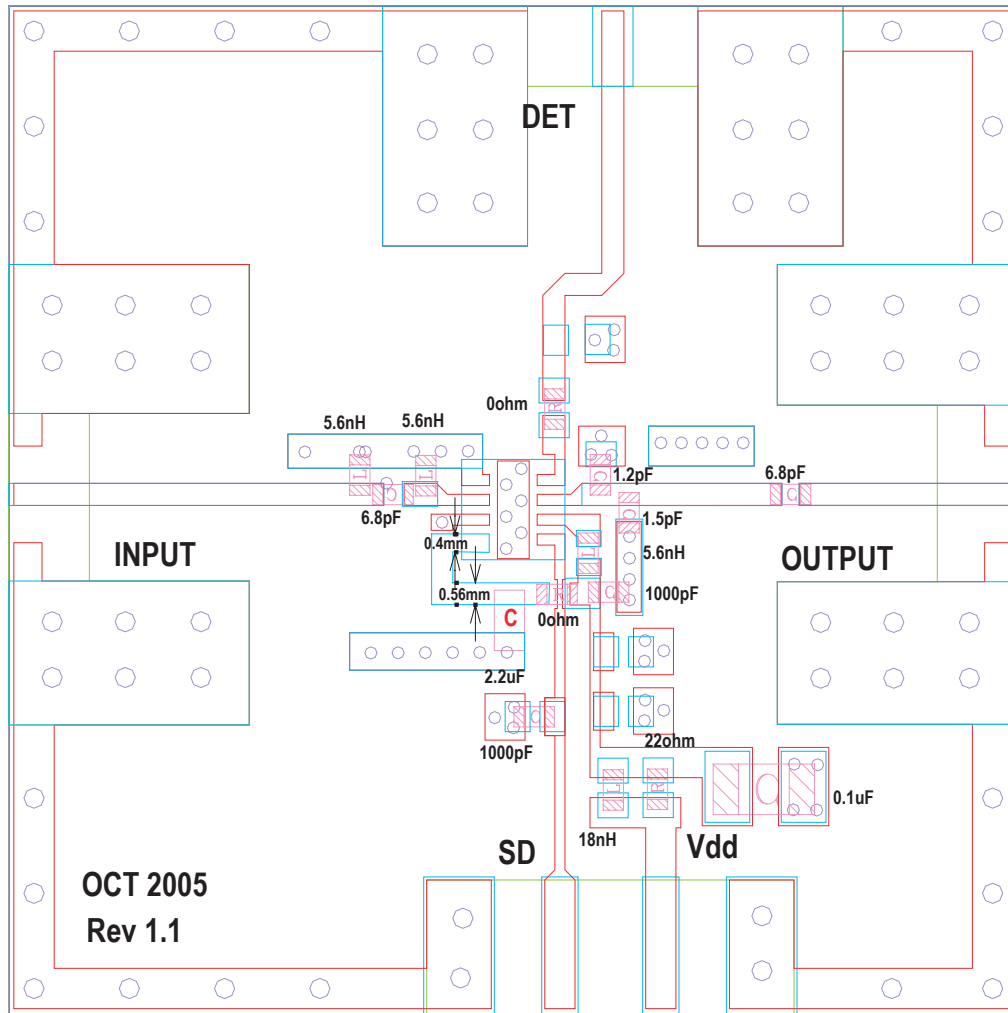

Figure 4. Demo board and Application Circuit Components
6. Measurements taken on demo board as shown on Figure 4. Excess circuit losses have been de-embedded from actual measurements. Standard deviation and typical data based on at least 500 parts sample size from 2 wafer lots. Future wafers allocated to this product may have nominal values any where within the upper and lower spec limits.